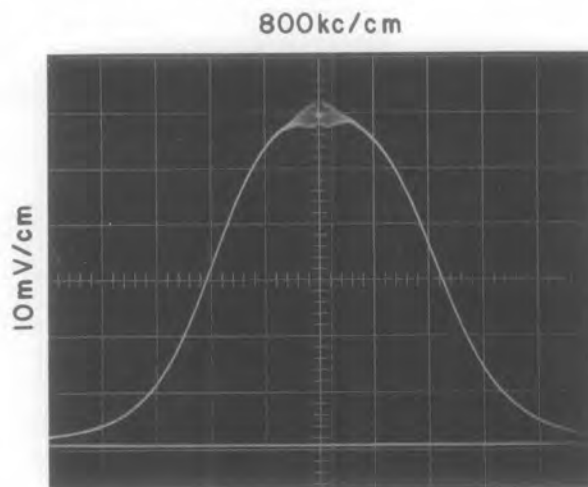

Figure 4-34. Typical Response, Converter/490-1000 mc Tuner Response
- (11) Reset the signal generator output frequency to 500.0 mc cw. Adjust the output level for a convenient marker size throughout the following procedure.
- (12) Move the sweep generator rf output cable from J1 to J2.
- (13) Connect the frequency counter to A14J3.
- (14) Reset the RANGE MC switch to 490-1000.
- (15) Set the 490-1000 MC dial to 500. Then adjust the dial and FINE TUNING control for an indication of 560.0 mc (500 + 60) on the frequency counter.
- (16) Readjust the controls of the sweep generator to display the marker and the response on the oscilloscope.
- (17) Adjust A4L17 and A6L2 for a maximum amplitude response centered on the 500.0 mc marker. Refer to Figure 4-34 for a typical response.